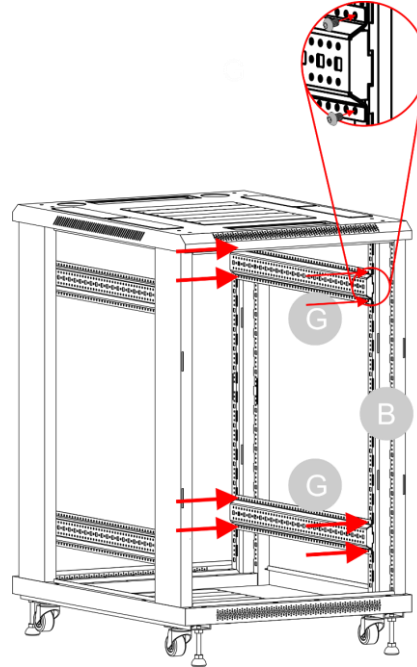

Fig. 30
- 14) Attach the **horizontal brackets (G)** to the 2 **frames (B)** with 4 x 2 **screws (N)** on the 4 top corners of the cabinet and 4 x 2 **screws (N)** on the bottom corners of the cabinet, as shown in Fig. 30.